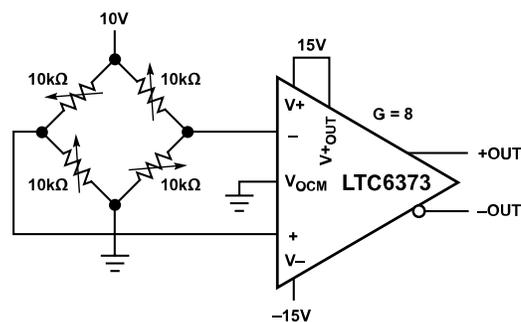

Figure 89. Precision Bridge Amplifier
Figure 89 shows the LTC6373 in a typical application to buffer and amplify the differential output of a bridge transducer. The LTC6373 is programmed to a gain of 8 V/V in this example and amplifies a differential, full-scale (FS) voltage of 100 mV = 0.1 V at transducer's output (or LTC6373's input). Table 6 shows the error budget in this application, listing various error sources in parts per million (ppm) normalized to full-scale voltage (0.1 V) and across the temperature range of 25°C to 85°C. The LTC6373 achieves superior performance compared to all other monolithic programmable-gain instrumentation amplifiers (PGIA) in the market, enabling more accurate measurements.